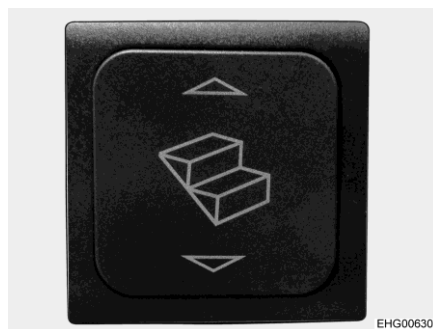

Fig. 1 Operating switch entrance step
- Press the rocker switch (Fig. 1) down until the entrance step has extended completely.
- Press the rocker switch (Fig. 1) up until the entrance step has retracted completely.